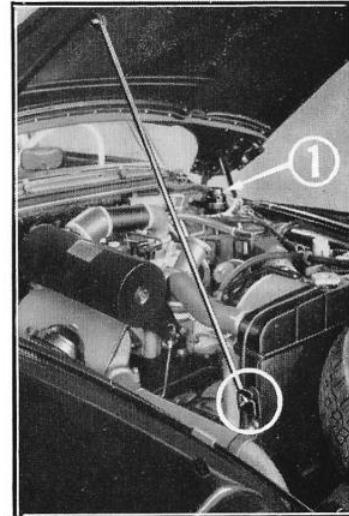

Figure 2
- Raise the hood slightly with the left hand, then completely release it by passing the right hand between the hood and the bumper on the right hand side of the number plate and pressing on the lever 3 (fig. 1). To hold the hood in the open position, engage the end of the strut (fig. 2) in the bracket fitted on the left hand side of the radiator above the exhaust pipe.
The level should be up to the top of the notch on the dip stick 1 (fig. 2 twice) but not above it. (The length between the top of the notch 1 and the bottom of the notch 2 corresponds, approximately, to 1 3/4 pints).
Fluid for hydraulic brakes : the level can be seen in the glass tank 1 (fig. 2) and should be between the **minimum** and **maximum** marks indicated by arrows.